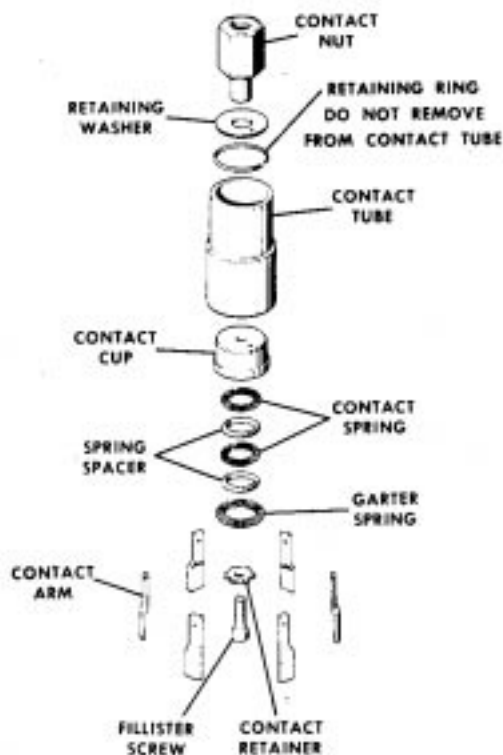

Figure 10
6. Insert a large screwdriver through the stationary contacts to engage the fillister screw slot. With a box wrench, loosen and remove the contact nut while the screwdriver is held securely in a vise. Remove contact arms, contact cup, and retaining washer, leaving the retaining ring which rests in a slot on the inside of the tube. Figure 10 shows a dismantled stationary contact assembly.